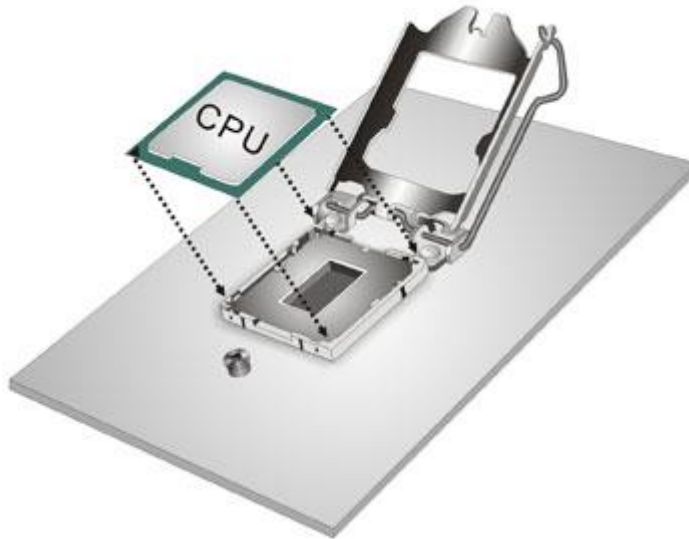

Figure 4-3: Insert the Socket LGA1200 CPU
Step 7: **Insert the CPU.** Gently insert the CPU into the socket. If the CPU pins are properly aligned, the CPU should slide into the CPU socket smoothly. See **Figure 4-3**.